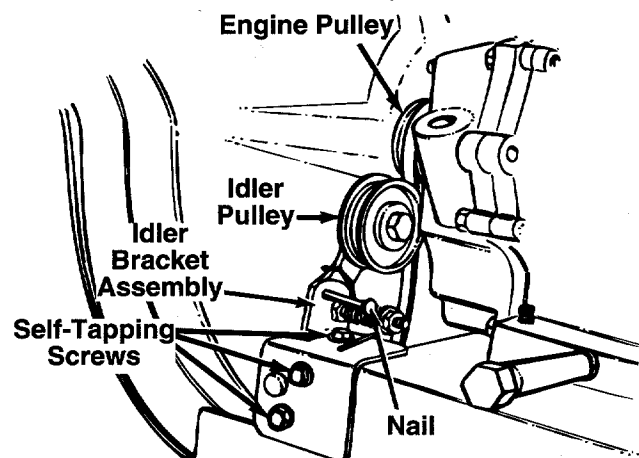

FIGURE 19.
5. Remove the idler pulley bracket as follows. (See figure 19.)
6. Remove the hex bolt and lock washer from the engine pulley. See figure 19. Slip the engine pulley off the engine shaft, and remove the belt from the pulley.